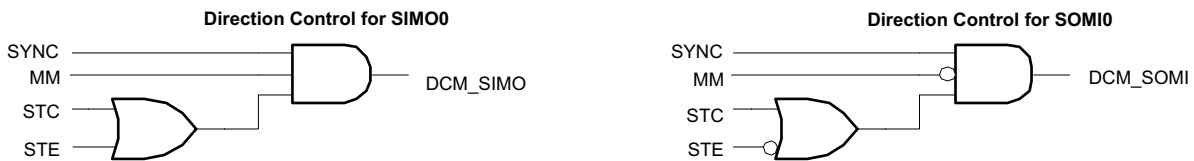

Figure 6-10. Direction Control for SIMO0 and SOMI0
(1) Timer_A3
(2) USART0 (also see Figure 6-10)